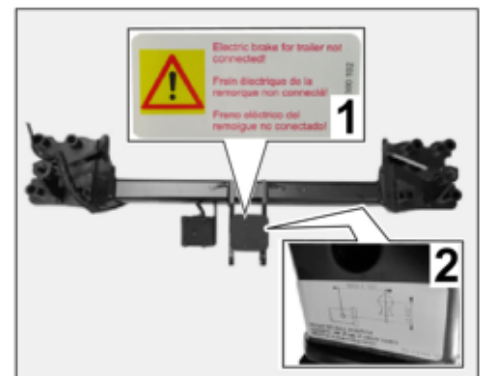

Figure 15
2.7.2 Affix sticker showing the warning “Electric Brake for Trailer not connected” on a clean surface at a clearly visible position next to the “Ball Position” sticker or the dashboard (⇒ *Figure 15*).